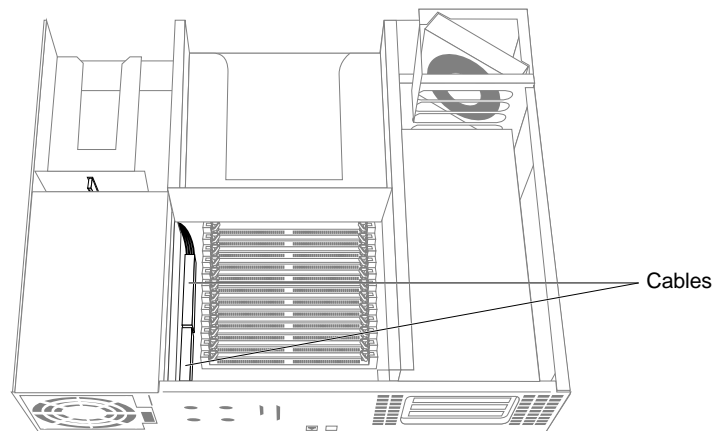

Figure 8-28 Connecting the Power Cables
- Connect the two power cables located close to the memory modules, as shown in Figure 8-28. These connectors are not keyed, so make sure you align them correctly before pressing firmly to seat them.